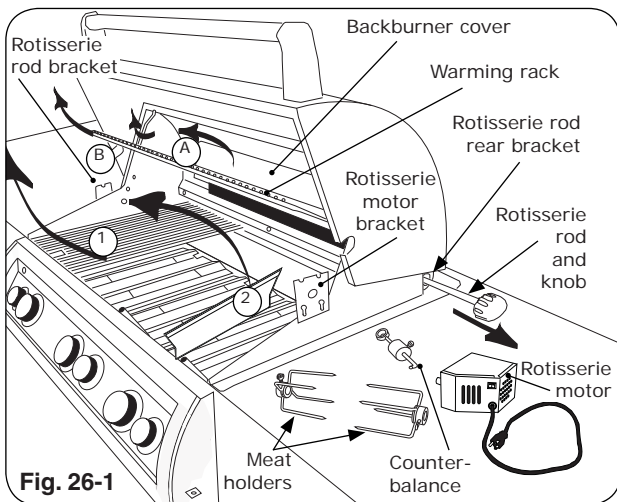

Fig. 26-1
2. Slide rotisserie motor fully onto motor bracket (right side, Fig. 26-1 and 26-2).
3. Remove rotisserie rod from rear bracket (Fig. 26-1) and attach knob if necessary.